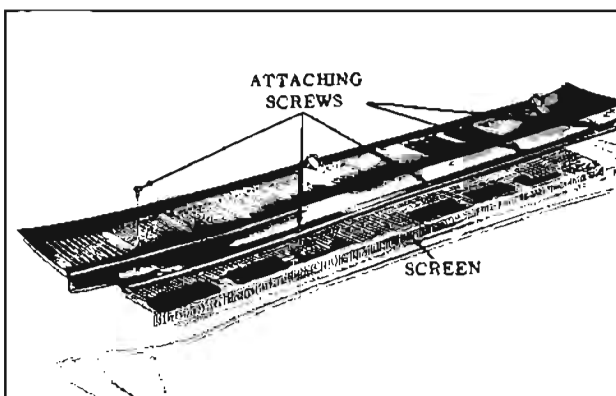

Fig. 12-122 Cowl Vent Grille
2. Raise hood and remove cowl vent grille to cowl screws. (Fig. 12-122)